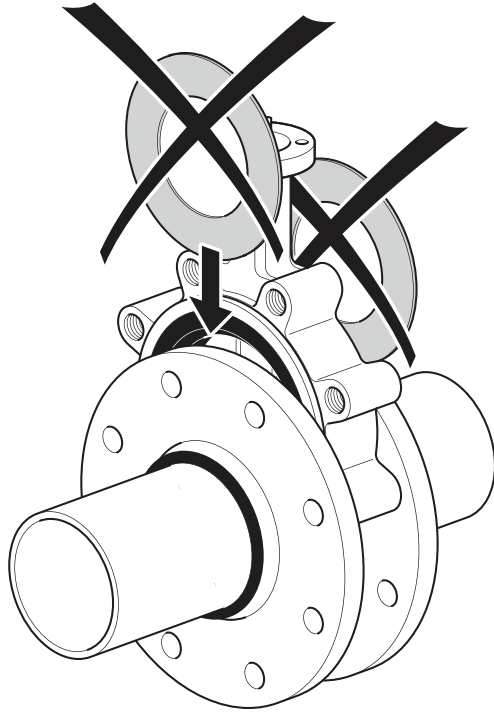

Fig. 23.
- Do NOT use flange gaskets on VR series butterfly valves. (Fig. 23)
- Do not use any flange gaskets (Fig. 23)